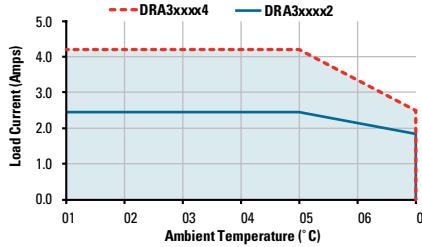

fig. 2 Derating Curve for 3 Phase & Motor Reversing contactor.
- If multiple units are installed be sure to follow derating curve (fig. 2)